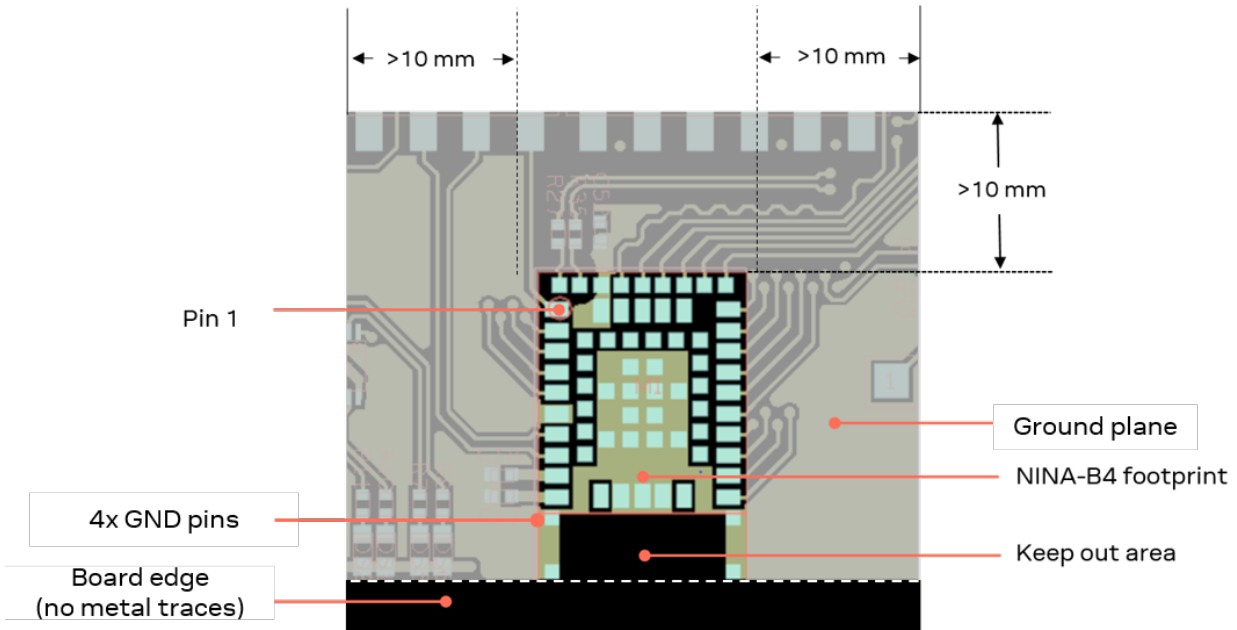
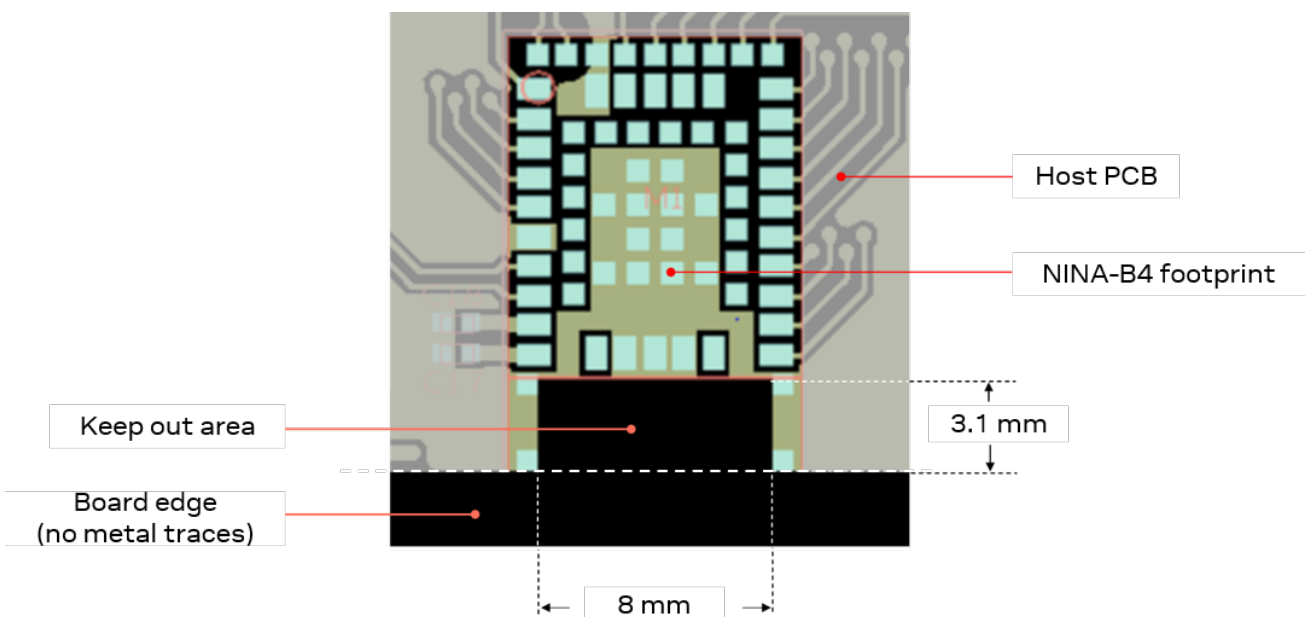

Figure 7: Extended host ground plane outside NINA-B4x6
Figure 8: NINA-B4x6 keep out area
- A ground plane extending at least 10 mm on both sides of the module is recommended, as shown in Figure 7.
- Include a non-disruptive GND plane under the module with a cut out underneath the antenna, as shown in Figure 8.
- Observe the antenna “keep-out” area on all layers, as shown in figures Figure 7 and Figure 8.
Figure 7 shows the ground plane on both sides of the module and the antenna “keep-out” area on all layers.